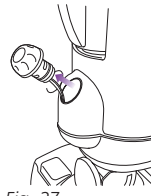

Fig. 27
- 1 Before use, make sure to fill the water tank. To fill the water into the steam nozzle head, turn the water fill cap counterclockwise to open. (Fig. 27)